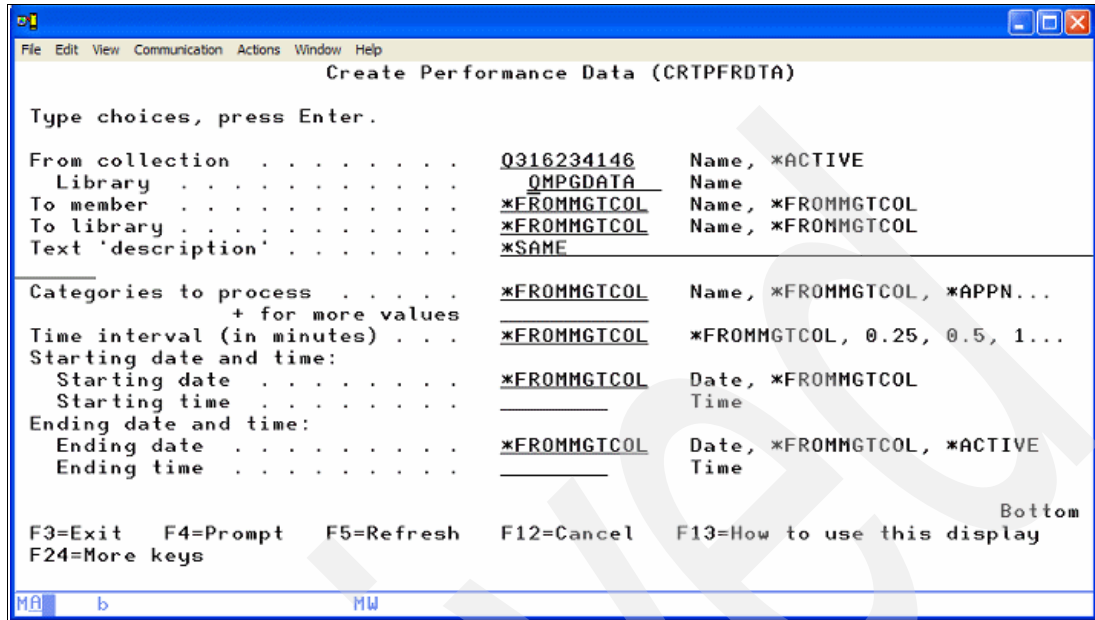

Figure A-17 Create Performance Data panel
- On the Create Performance Data panel (Figure A-17), type the name of the collection and the name of the collection library. Then press Enter to create the collection file data.